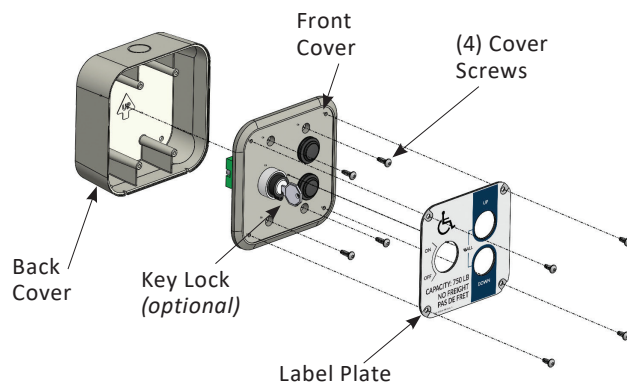

Figure 4-15
1. Remove four (4) label plate screws and label plate. *See Figure 4-15.*